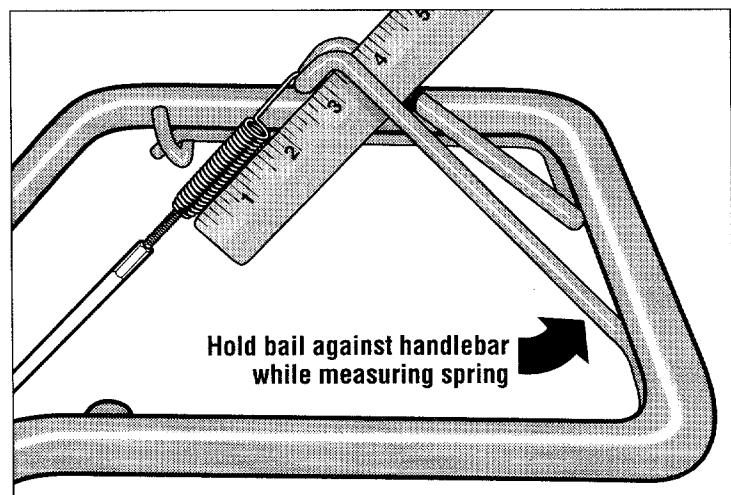

Fig. 2-7: Measure cable spring.
7. Lift and hold the forward clutch bail against the handlebar. See Fig. 2-7.
8. Measure the distance between the coils of the cable spring (Fig. 2-7). The length should be approximately 1-7/8". If the length is incorrect, you will have to make an adjustment to the cable tension as described in "Checking and Adjusting Belt Tension" on Page 28.